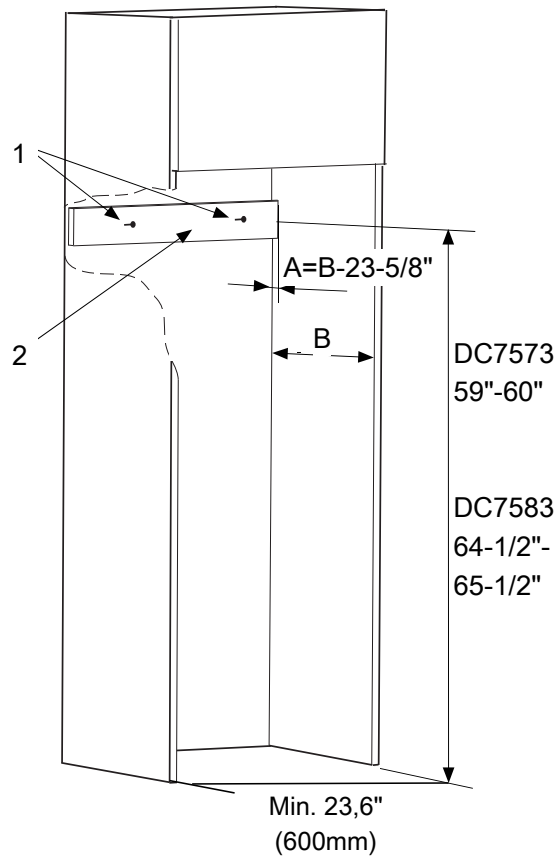

Figure 1
1. Measure assembly depth "B" where the drying cabinet is to be installed (see figure 1).
2. If assembly depth "B" is greater than 23,6" (600 mm), a wooden batten (2) of thickness "A" must be cut to size. The wooden batten is not supplied.
2. Loosen the hinge plate, see figure 1.